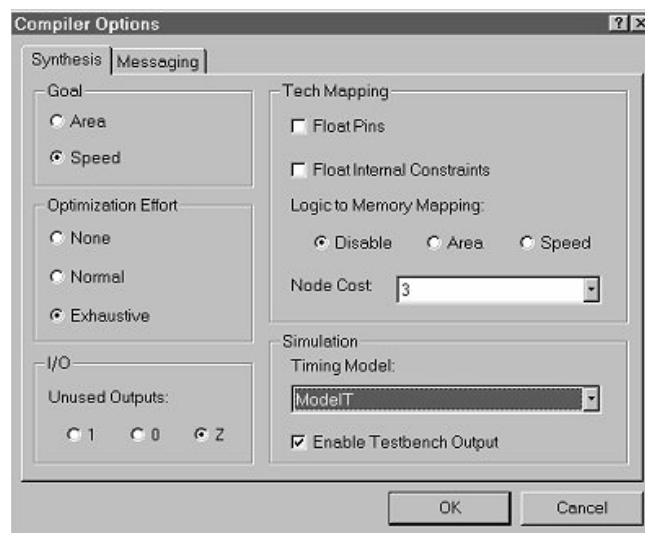

Figure 1. Setting Testbench Output for Simulation in *ModelSim*.
1. Make sure that the "Enable Testbench Output" is set in *Warp* and the file is fitted. This is accomplished by going to "Project -> Compiler Options..." and click on the 'Synthesis' Folder. An example of this is shown in *Figure 1*.
2. If the user is compiling a post-fit netlist to be simulated in Mentor Graphic's *ModelSim*, the user should choose the Timing Model to be "ModelIT" as shown in *Figure 1*.